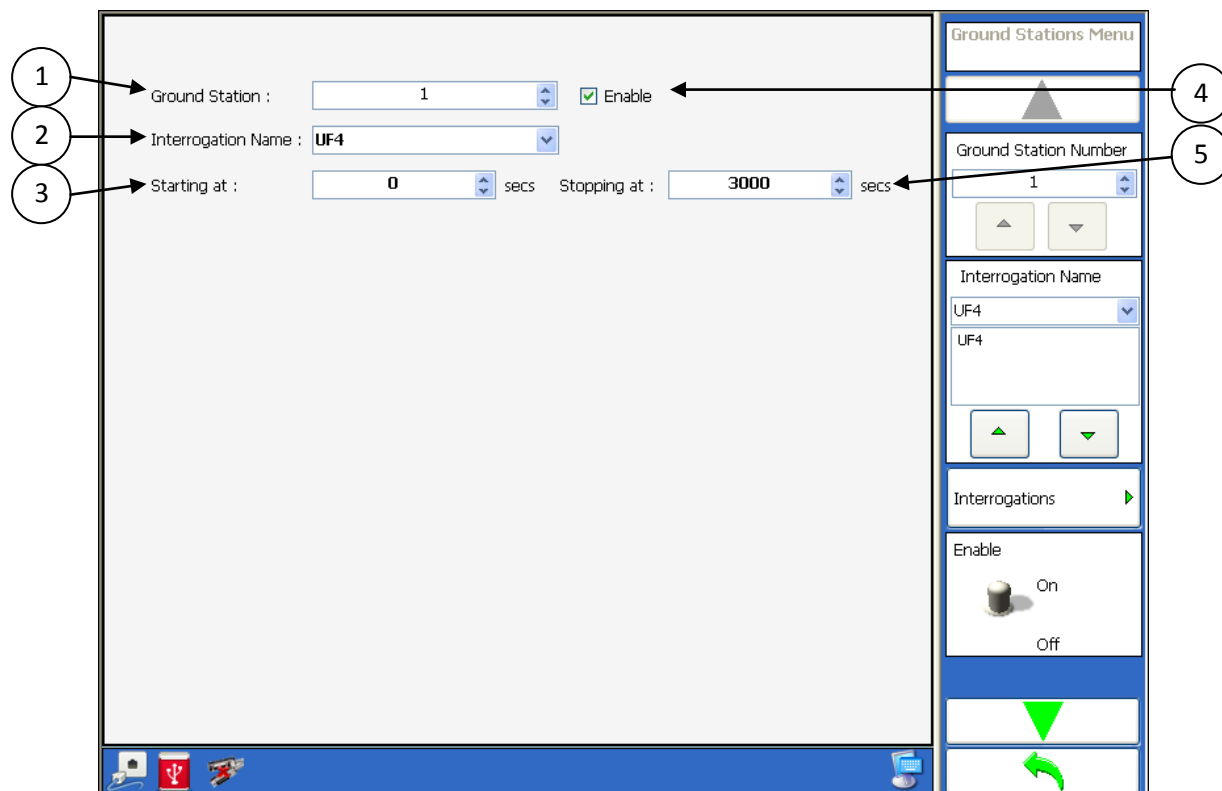

Figure 3.1.2.5.12.1 TCAS Ground Station Menu
Figure 3.1.2.5.12.1 illustrates the TTG-7000 TCAS Ground Station Menu. The TCAS Ground Station Menu allows the user to define up to fifteen (15) different ground stations. The menu also allows the user to define the timeframe and what type of interrogation to perform.